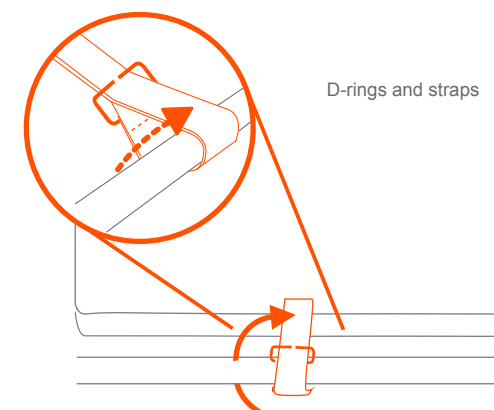

Fig. 3c
- **NOTE:** If assembly required: attach the D-ring on each side of the wagon fabric to the wagon frame (Fig. 3c).